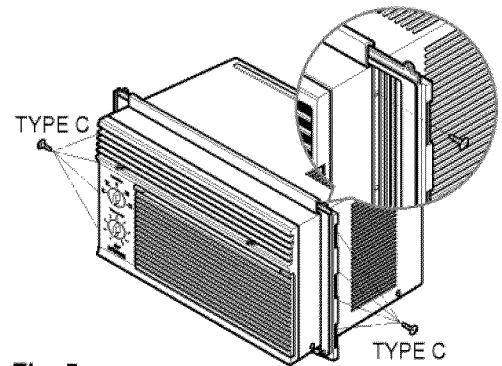

Fig. 5
1. Insert the guide panels into the guides of the air conditioner. Fasten the curtains to the unit with screws (TYPE C), as shown Fig. 5.